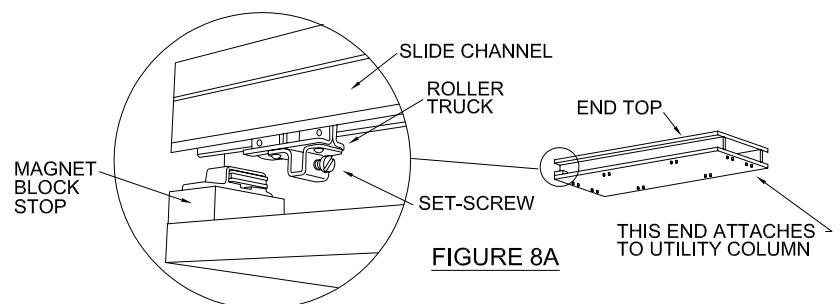

FIGURE 8A
Make sure the (2) roller trucks are positioned inside the slide channels on both sides of the end top. The set-screw should be opposite of the magnet so the magnet can make contact with the flate side of the roller truck. See Figure 8A.